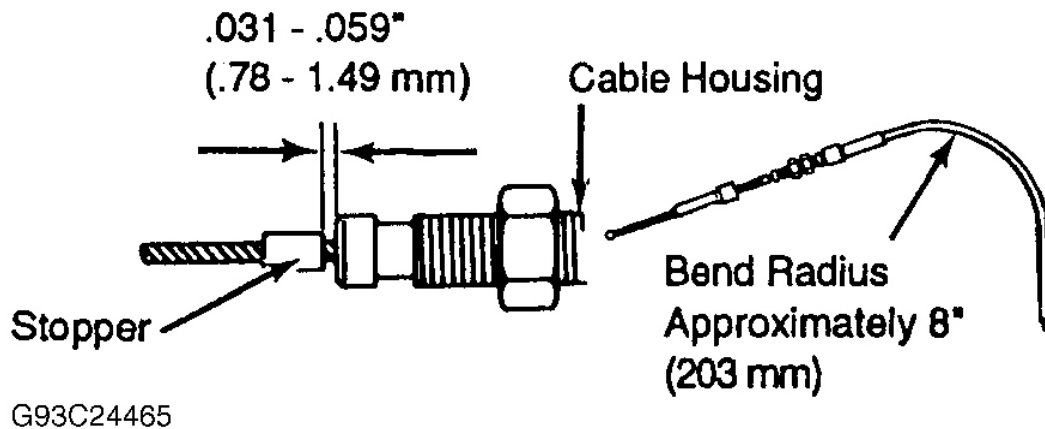

Fig. 6: Locating Throttle Cable Stopper
2. Pull inner cable lightly, until a slight resistance is felt, and hold in place. Stake stopper on inner cable, leaving a .031-.059" (.80-1.49 mm) gap between cable housing and stopper. See **Fig. 6**.